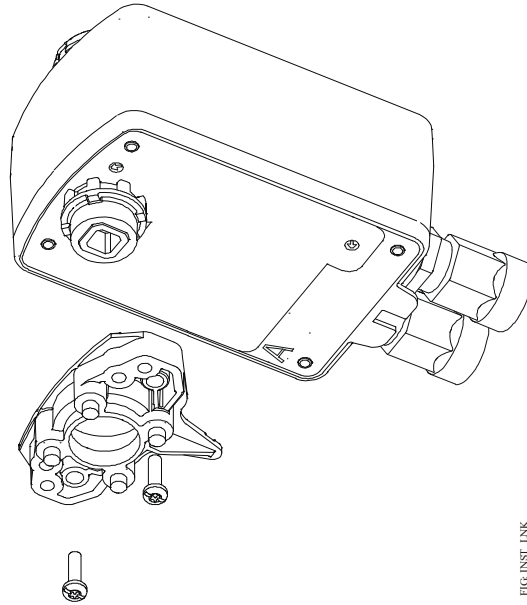

Figure 13: Installing the linkage
3. Remove the linkage from Side B (Figure 13).
5. Install linkage base on Side A using the two #8-32 x 0.625 in. long screws (Figure 13). The recommended torque is 29 to 33 lb·in. (3.3 to 3.7 N·m).